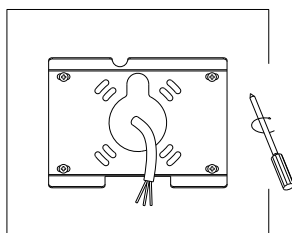

Figure 1-3
3.Align mounting bracket with hole; tighten screws.(Figure 1-3)